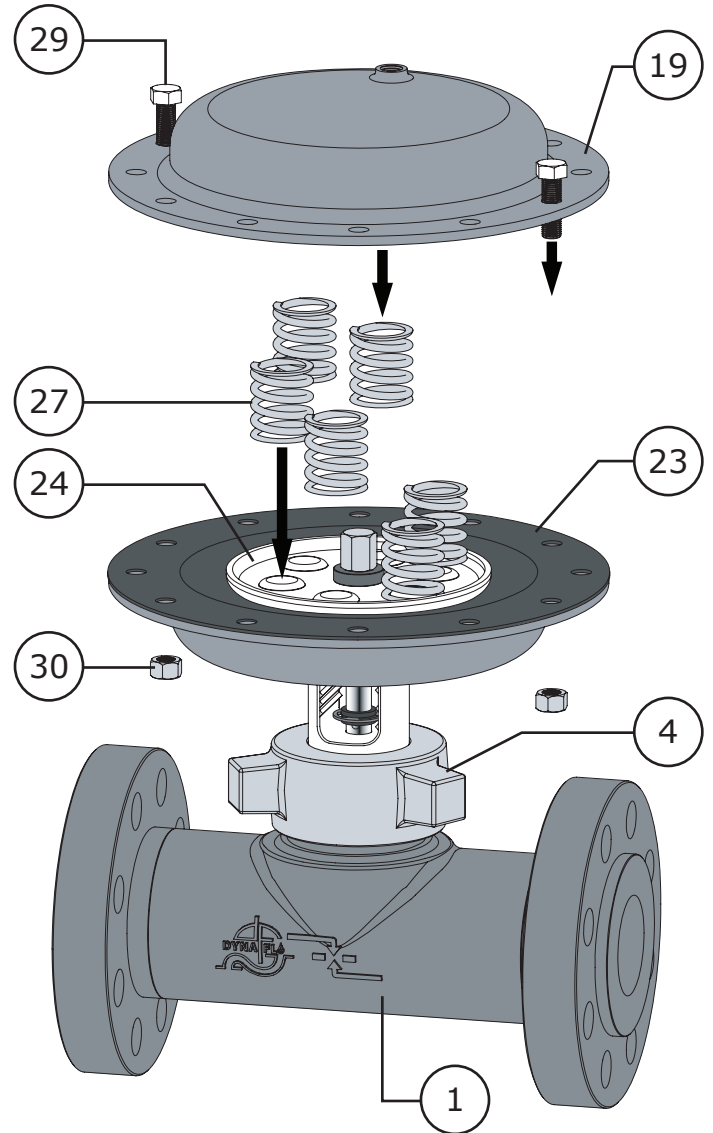

Figure 42 Upper Diaphragm Assembly (Fail Closed)
- 13 Install the **long** (1-1/4") cap screws (Key 29) opposite from each other as shown in Figure 42. Partially thread a nut (Key 30) onto one of the **long** cap screws. It may be necessary to compress the springs (Key 27) by pushing slightly on the upper casing (Key 28) to thread a nut onto the second **long** cap screw.